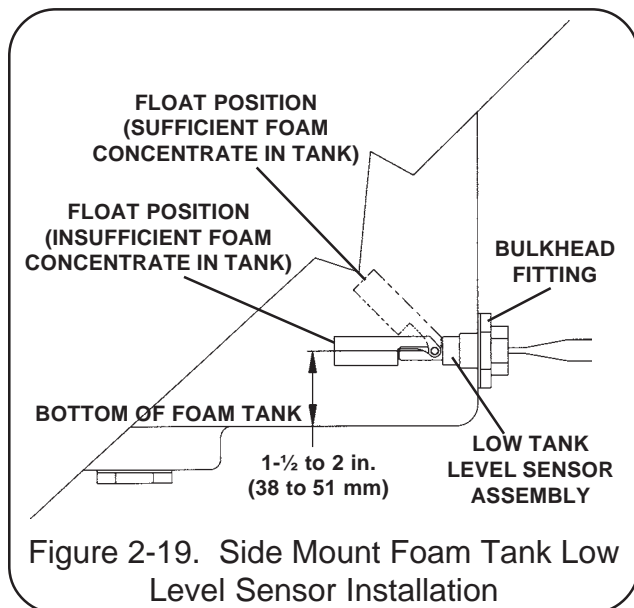

Figure 2-19. Side Mount Foam Tank Low Level Sensor Installation
1. A side mount low tank level sensor is supplied standard with Hale FoamLogix Model 2.1A foam system. The side mount low tank level sensor has ½ inch NPT threads. If tank design and construction allows, the side mount sensor can be threaded directly into the side of the tank at the proper height. Also the sensor can be mounted on the foam tank using a ½ x 1 inch NPT bushing and a bulkhead fitting with 1 inch FNPT threads (see figure 2-19). The center of the switch must be located at least 1-½ to 2 inches (38 to 51 mm) from the bottom of the foam tank with the float positioned on top of the switch to move up and down.